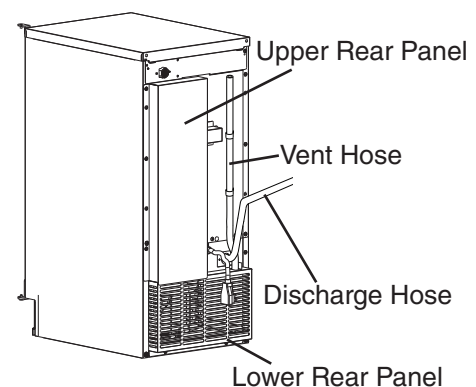

Fig. 9
- 7) Pour another 24 to 30 oz. (710 to 890 ml) of water into the appliance's storage bin, then completely restrict the discharge hose while DP is operating. See Fig. 9. Pour more water into the appliance's storage bin until the appliance turns off. DP will continue to operate. Check for leaks.